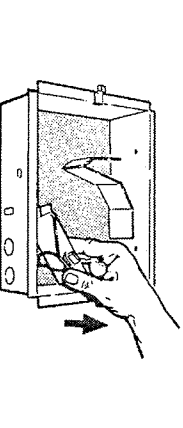

FIG. 3
2. Slide the wiring cover out of housing. (FIG. 3)
2. Saque la cubierta de la caja. (FIG. 3)